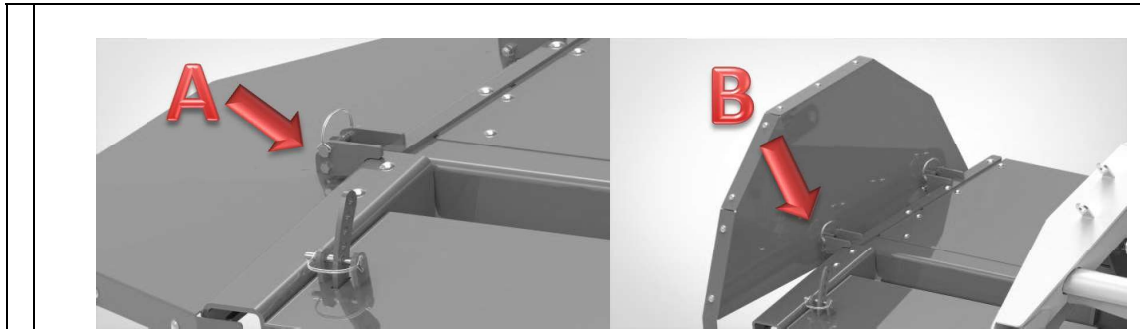

Fig. 6 Raising the side guards
For mower transport, raise the side guards; to do this remove the cotter pins, (1) in Fig. 6, then lift the guards and secure them again with the cotter pins, (2) in Fig. 6.